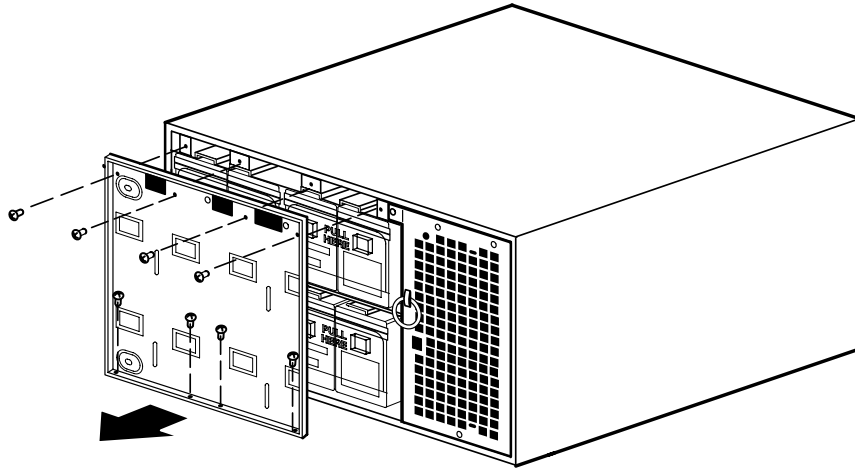

Figure 53. Removing the UPS Battery Cover Plate
3. Remove the eight screws on the battery cover plate and retain. Remove the plate. See Figure 53.